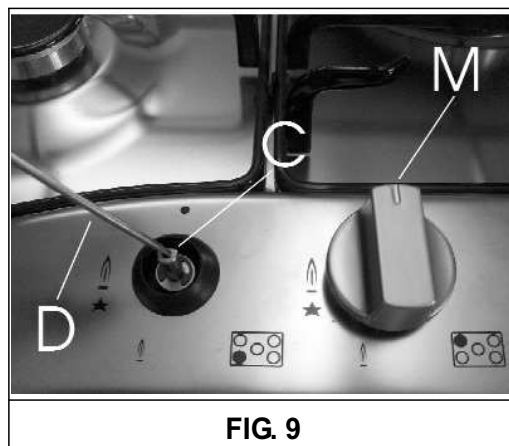

FIG. 9
- Remove knob “M” (fig. 9) of the tap, which is simply pressed on to its rod.
- Insert a small screwdriver “D” into hole “C” (fig. 9) and turn the throttle screw to the right or left until the burner flame has been adequately regulated to the “Reduced rate” position.